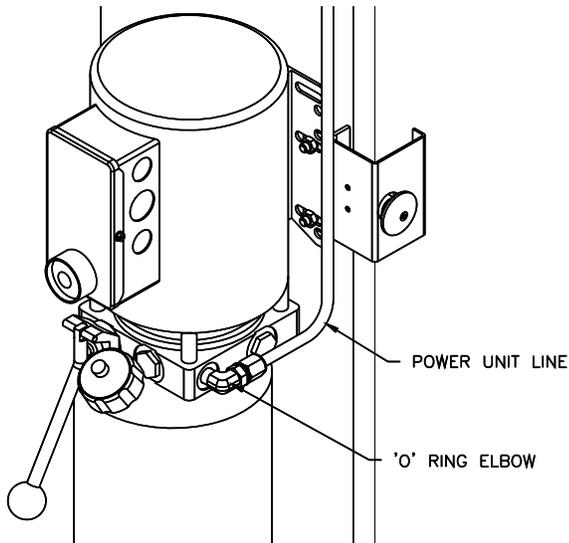

Fig. 12-Power Unit Connection
- 21) Thread 9/16"-18 O-ring elbow (in hardware box) into power unit. Attach free end of power unit hose to elbow. See **Fig 12**. **CAUTION** do not damage rubber O-ring.